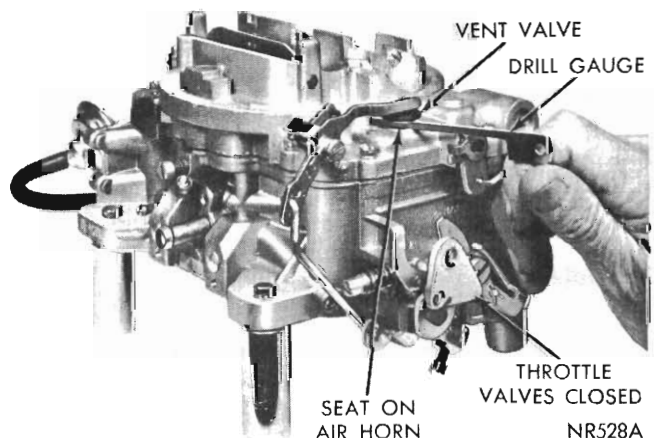

Fig. 17—Bowl Vent Valve Adjustment
- (1) With throttle valves tightly closed, insert a 1/8 inch drill between air horn and valve at smallest opening (Fig. 17).